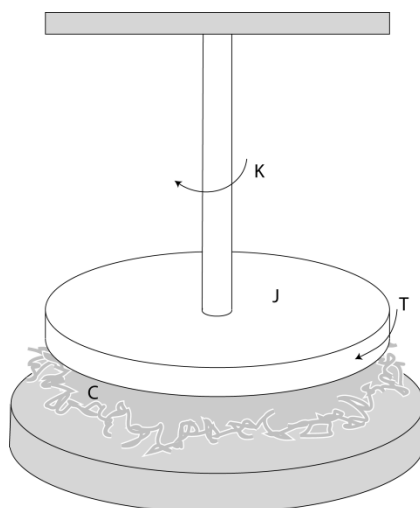

Figure 2: 1 DOF Mechanical Torsional System
- For the system in Figure 2, express the damping ratio, ζ , natural frequency, ω_n , and static gain, K , in terms of J , c and k .